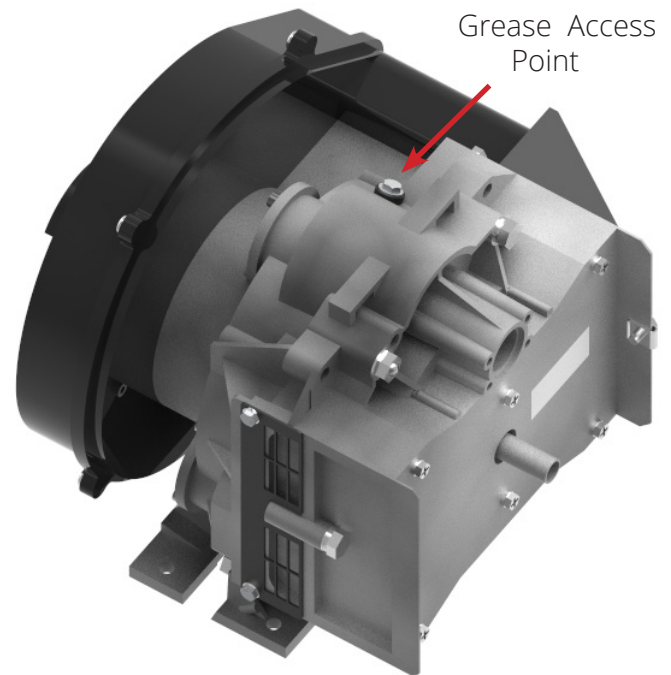
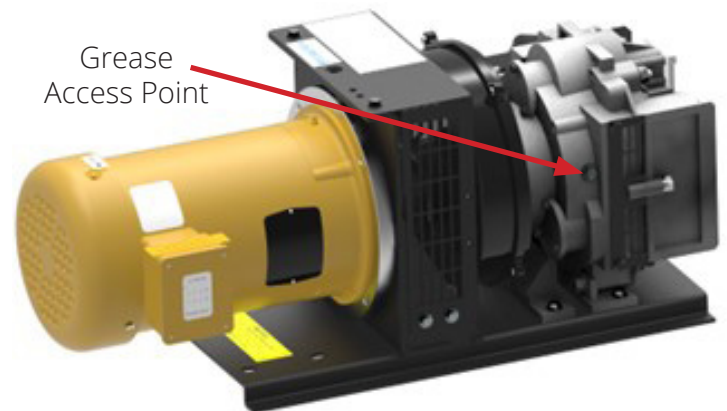

Figure 71
Figure 72: Optional Second Grease Access Point
1. Remove the well nut or ribbed plug from the grease access port. Figure 71 shows the standard access port location on all Powerex 5HP scroll air ends. Figure 72 shows the optional second access port. Either may be used to access the OS bearing grease fitting.